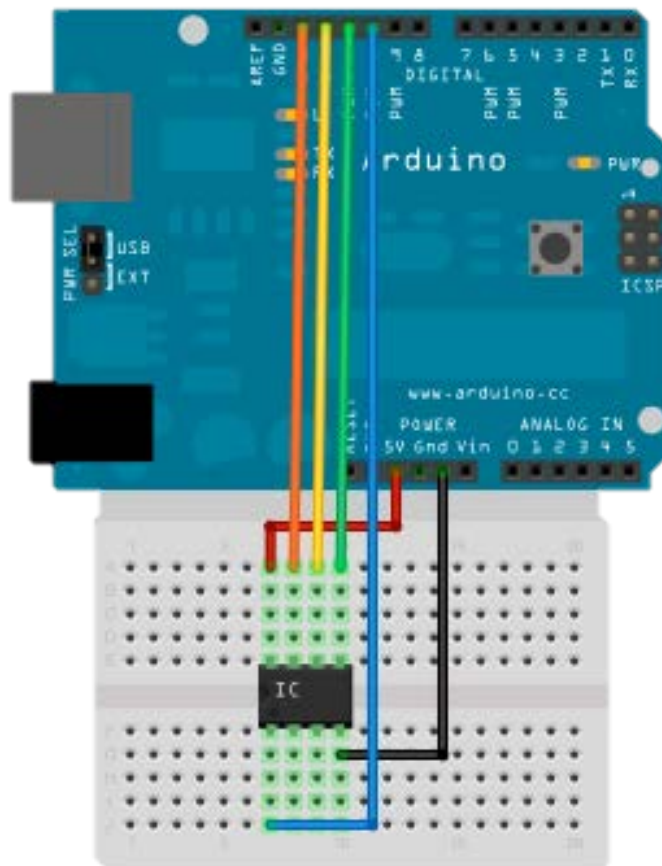

Figure 1
7. **Connect ATTINY45/85** according to the **Figure 1**